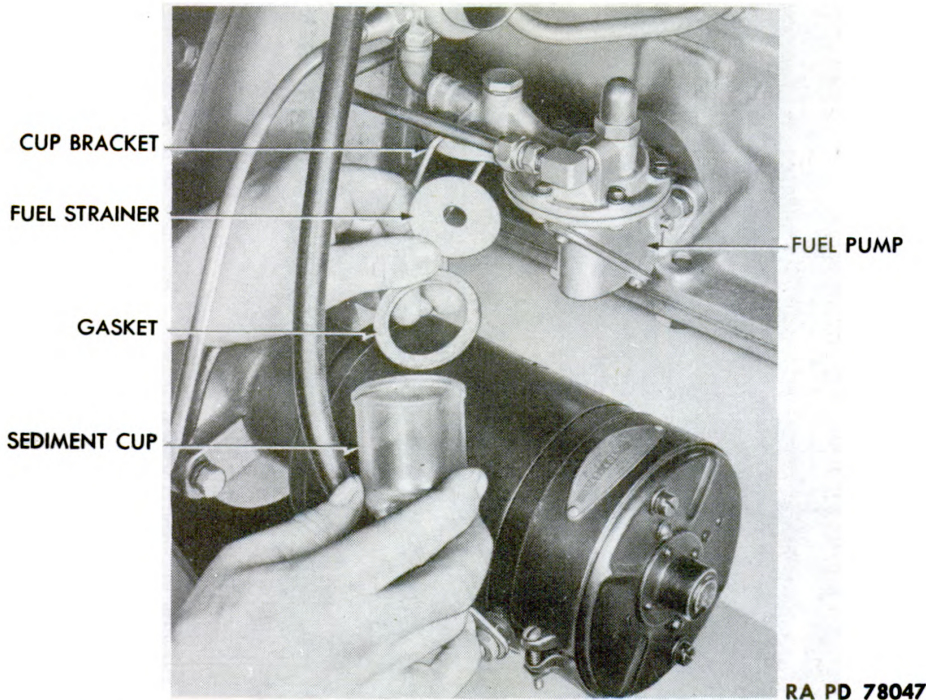

Figure 35 – Sediment Cup and Fuel Strainer Removal
b. Maintenance. The glass sediment cup should be examined daily, and emptied whenever water is found at the bottom. The cup and the wire mesh strainer above it (fig. 35) should be cleaned frequently by washing in SOLVENT, dry-cleaning.